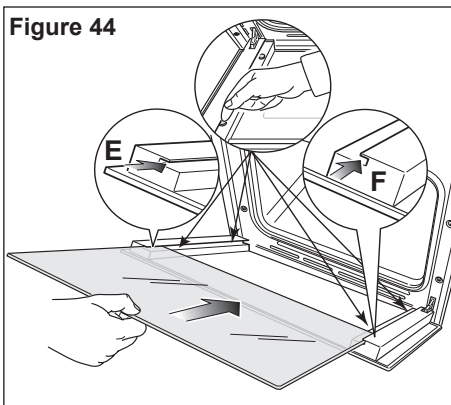

Figure 45
- Insert the pane in the left "E" and right "F" slide guides (fig. 44), and gently slide it to the retainers "H" (fig. 45).